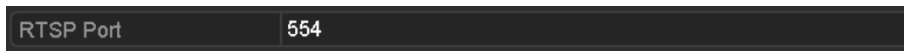

Figure 9. 18 RTSP Settings Interface
2. Select the **More Settings** tab to enter the More Settings menu, as shown in Figure 9. 16.